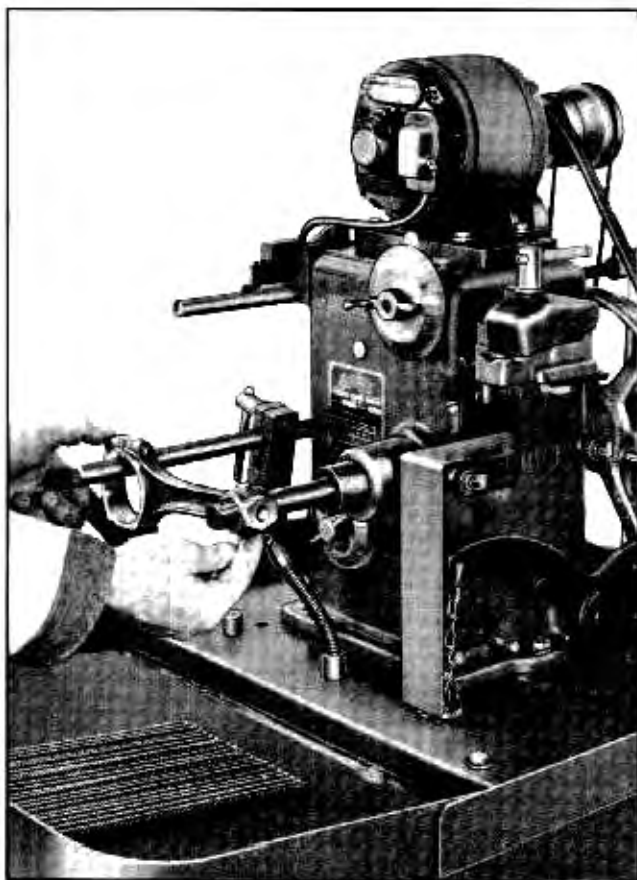

Fig. 6-64 Honing Connecting Rod Bushing
5. Hone bushing to fit piston pin with which it is to be used (page 6-40). It is advisable to use new piston pin when new bushing is installed if there is any measurable wear on the old pin. A Sunnen hone (Fig. 6-64) or similar accurate equipment should be used to perform the honing operation on the bushing since the hole must be perfectly round with no taper, and clearance between bushing and pin should be from .0001" to .0006". Hand operated expansion reamers or small hones used in electric drills are not satisfactory for sizing piston pin bushings.
The fit of piston pin in rod bushing should be .0001" to .0006" loose. Pin and bushing should be dry when checking this fit. If clearance is excessive, new bushing or oversize pin should be installed. Hone bushing to size (Fig. 6-64).